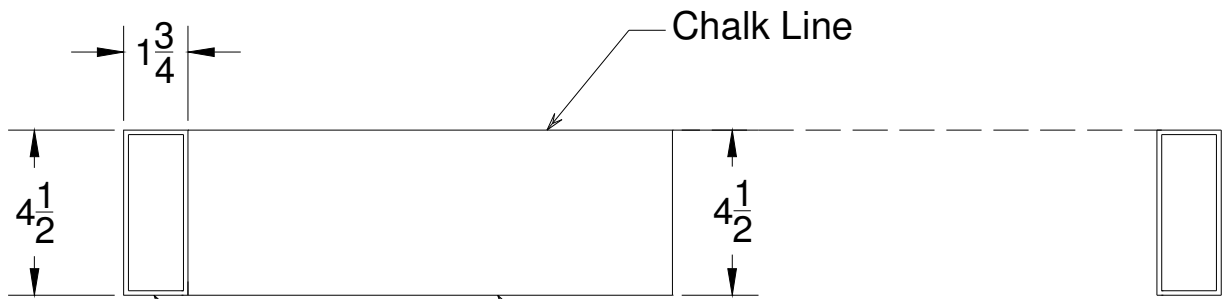

Figure 8
1. Snap chalk line on floor from jamb to jamb (See Figure 8) on interior side of building. Dimensions shown are for a Full Open, not a Pocketed unit. Pocketed track is 6-3/8" wide.
2. Floor track is factory cut the same width as swing panel (SO). Extending the floor track across entire opening is optional. Contact customer service at (877) 622-2694 to order additional track.